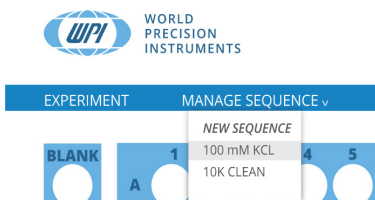

Fig. 17—The Manage Sequence menu lists the existing sequences.
- To create a measurement sequence, select the *Manage Sequence* menu. A list of the existing sequences displays (Fig. 17), and you may open and edit any existing sequence or select *New Sequence* to create a new one.